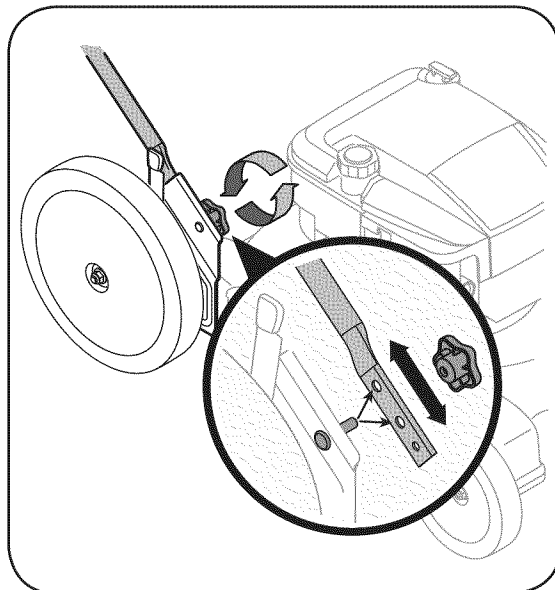

Figure 3-3
- a. Remove the star knobs shown in Figure 3-3 and remove the lower handle.
- b. Position each handle bracket stud into the top hole in the lower handle. See Figure 3-3 inset.